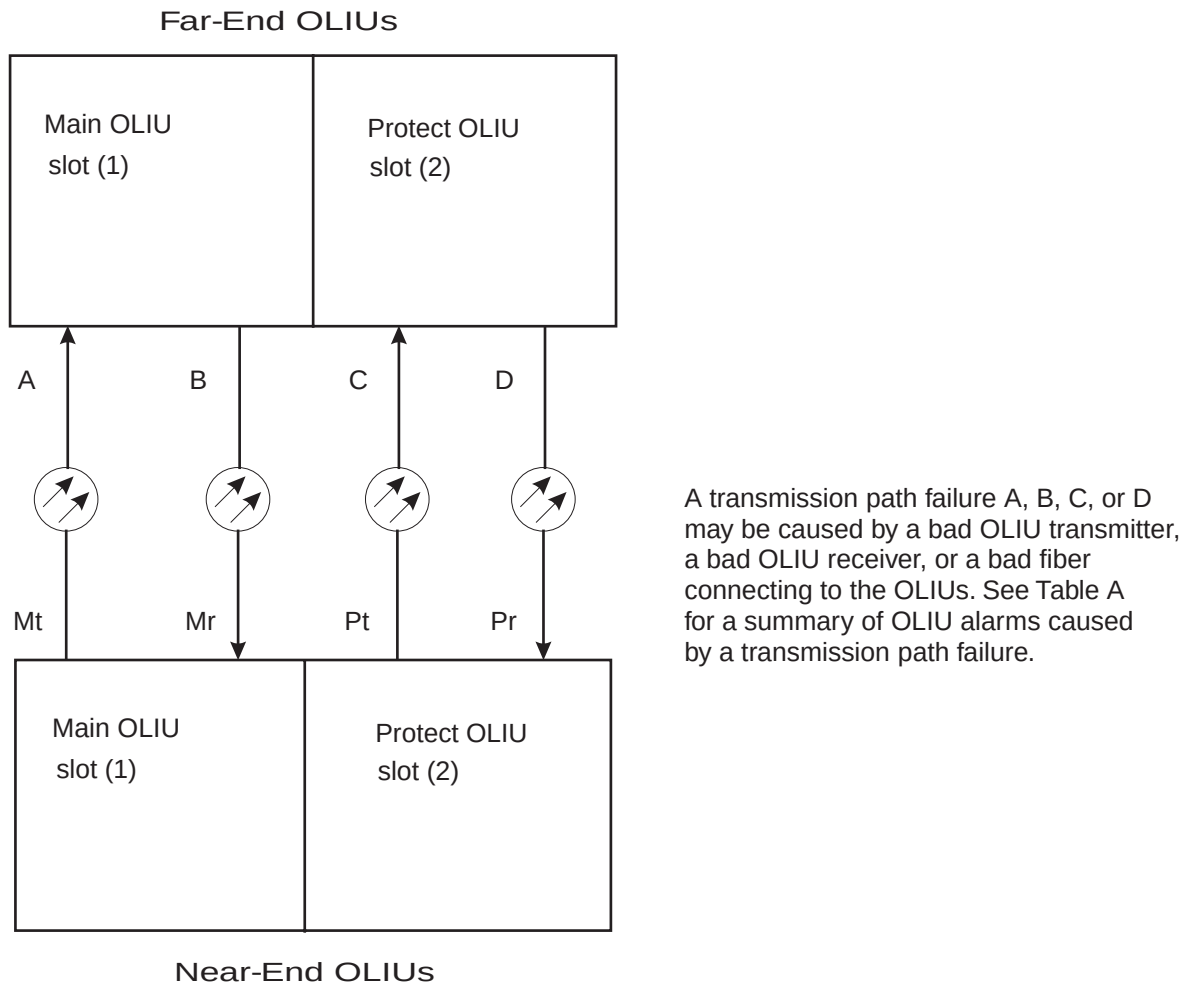

Figure 2 – Fiber Paths Between SONET Terminals
18. Sectionalize trouble using local procedures. Refer to Table A and Figure 2, if necessary.
22. Refer trouble to the far end or fiber facility maintenance. Refer to Figure 2 and Table A when assisting with trouble sectionalization.
25. Sectionalize trouble using local procedures. Refer to Table A and Figure 2, if necessary.